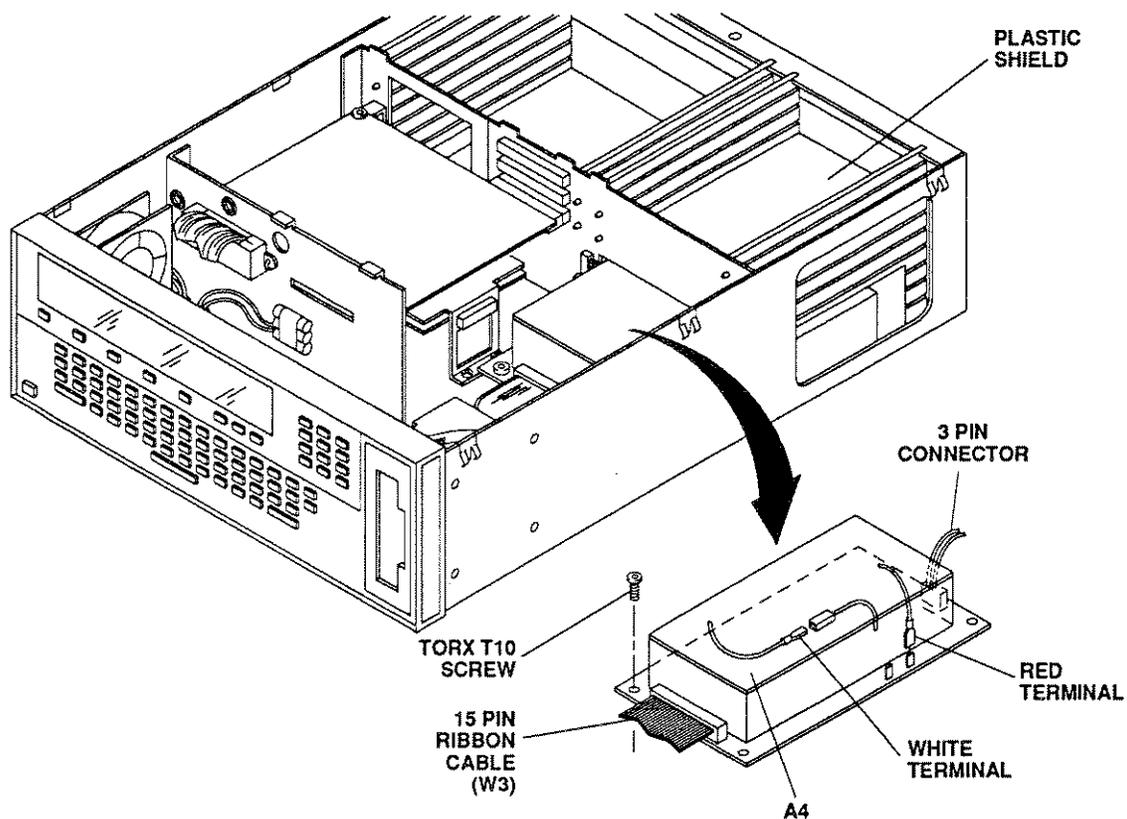

Figure 8-8. Remove and Replace A4 Power Supply Assembly
4. Remove plastic shield from card guide (see Figure 8-8).